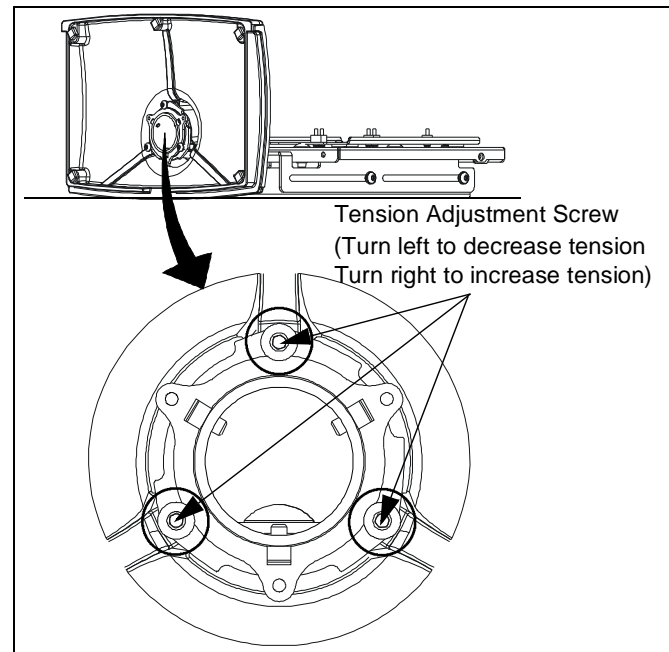

Figure 10
3. Lay mount on back. (See Figure 10)
4. Locate three tensions adjustment screws. (See Figure 10)